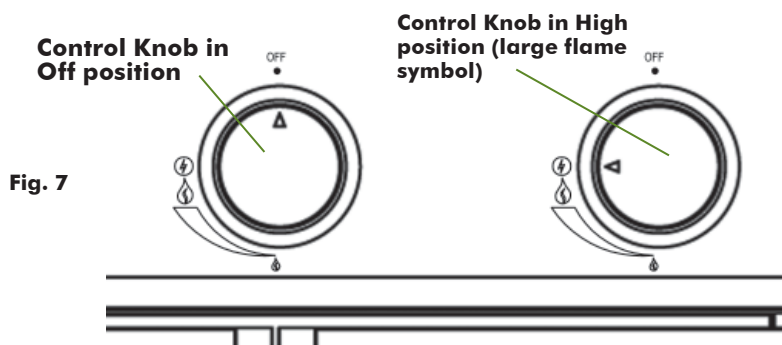

Fig. 7
2. **IMPORTANT:** Make sure Control Knobs are turned "Off." (Fig. 7)
4. Push far left Main Burner Control Knob in on Control Panel and turn counterclockwise to the High position. (Figs. 7 and 9)
2. **IMPORTANT:** Make sure Control Knobs are turned "Off." (Fig. 7 - P.18)
2. **IMPORTANT:** Make sure the Side Burner Control Knob is turned "Off" first. (Fig. 7 - P.18)
4. Push Side Burner Control Knob in and turn counterclockwise to the High position. (Fig. 7- P.18)